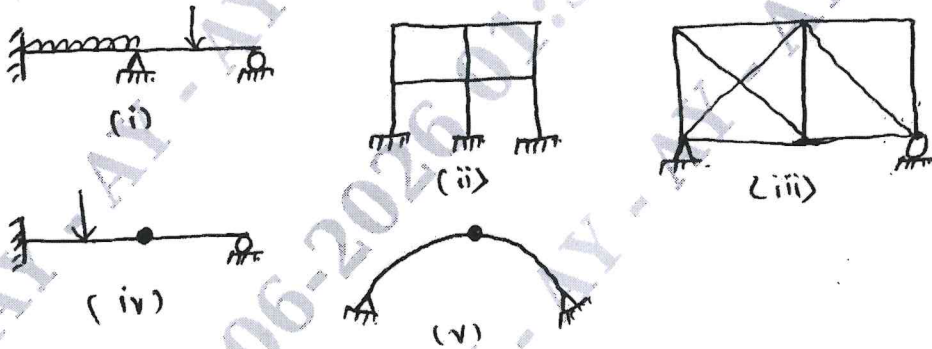

Fig.Q2(a)
b. Find the forces in the numbered members of the loaded truss shown in Fig.Q2(b) using method of section.